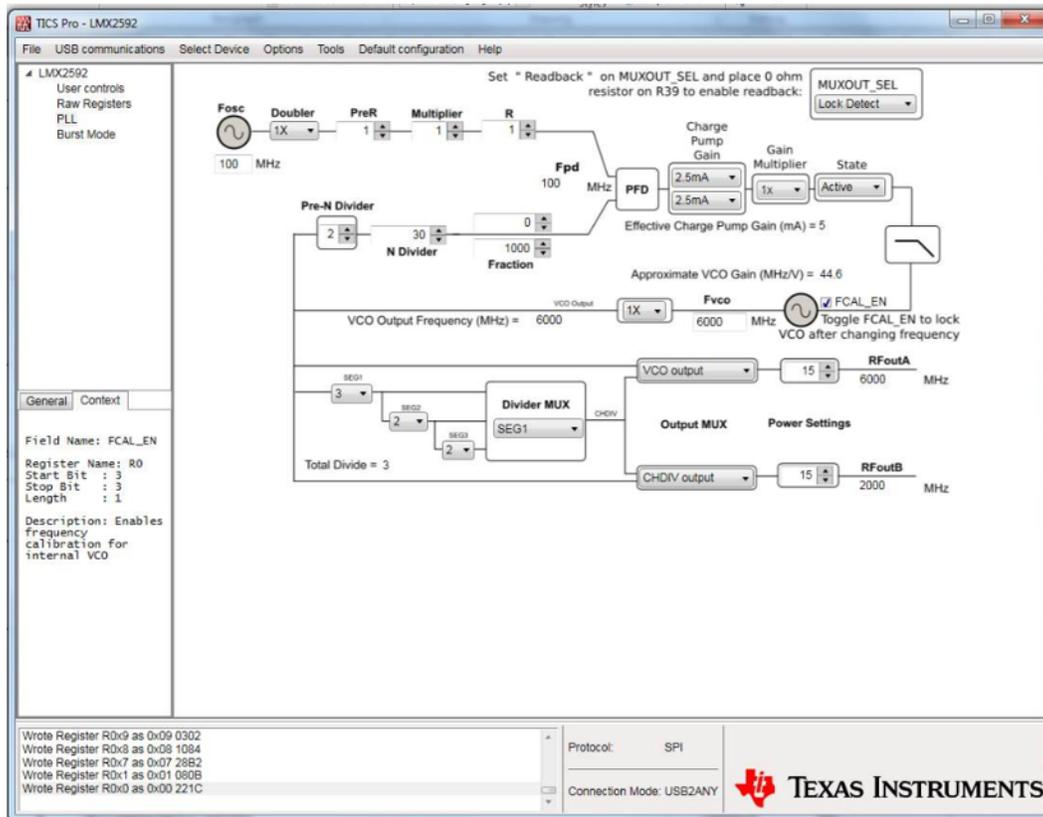

Figure 5. TICS PRO GUI Screenshot
2. To start the software, open TICS.exe from installed directory. Open the software as shown in Figure 5.